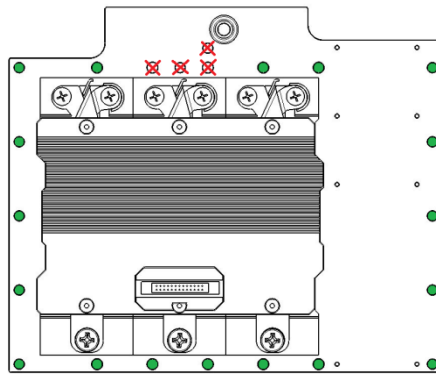

Figure 23 – Inverter Screw Locations
4. Install the new M6X30 screws into the Inverter assembly with the exception of the four (4) M6X35 SCR Manifold screws and carefully lower the assembly onto the compressor housing. Use the installed screws to properly line up the inverter. Refer to Figure 23 (Inverter Screw Locations).